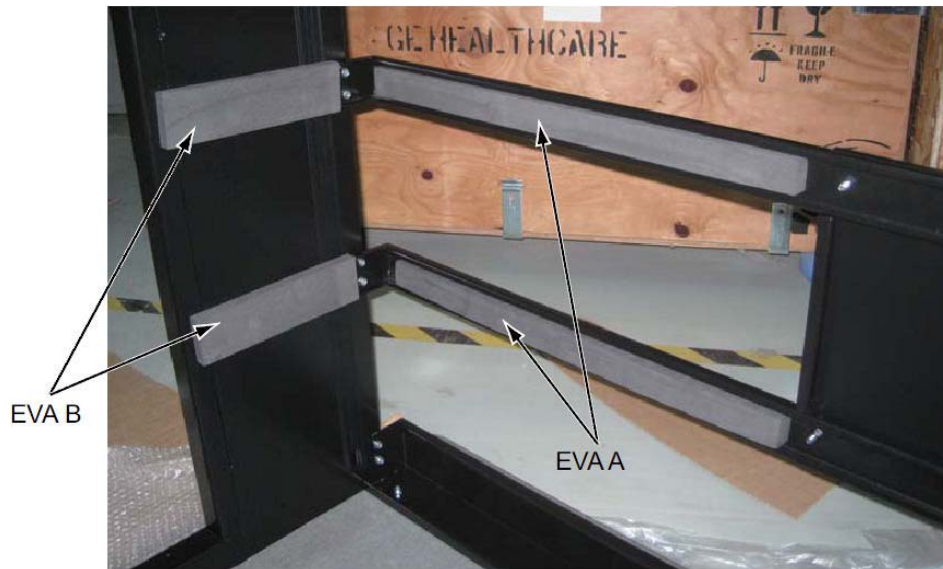

Figure D-6 EVA Attaching
- 8.) Stick EVA A on the teams and EVA B on the right leg as shown in Figure D-6.